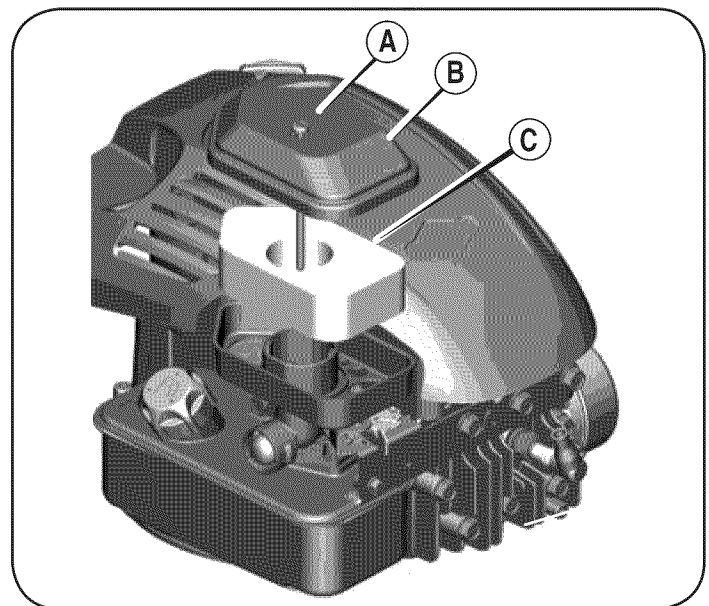

Figure 13
1. Remove the screw (A) from the top of the air filter cover (B). See Figure 13.
3. Remove the foam element (C) from the air filter base.